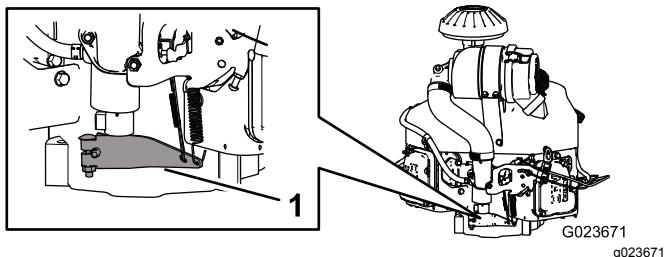

Figure 66
3. Push the spring end of the governor arm downward (Figure 66).